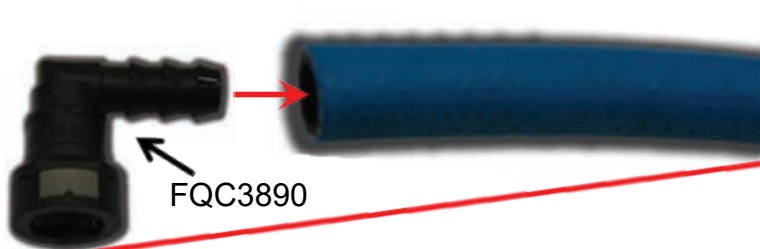

Figure 24
- 6-2. Assemble one end of the hose (Reference section 4) using Fuel line end FQC3890 and plug it into the "Return" J2044 fitting installed in the AirDog® (Figure 24). A "click" will be heard once the fitting is properly connected.